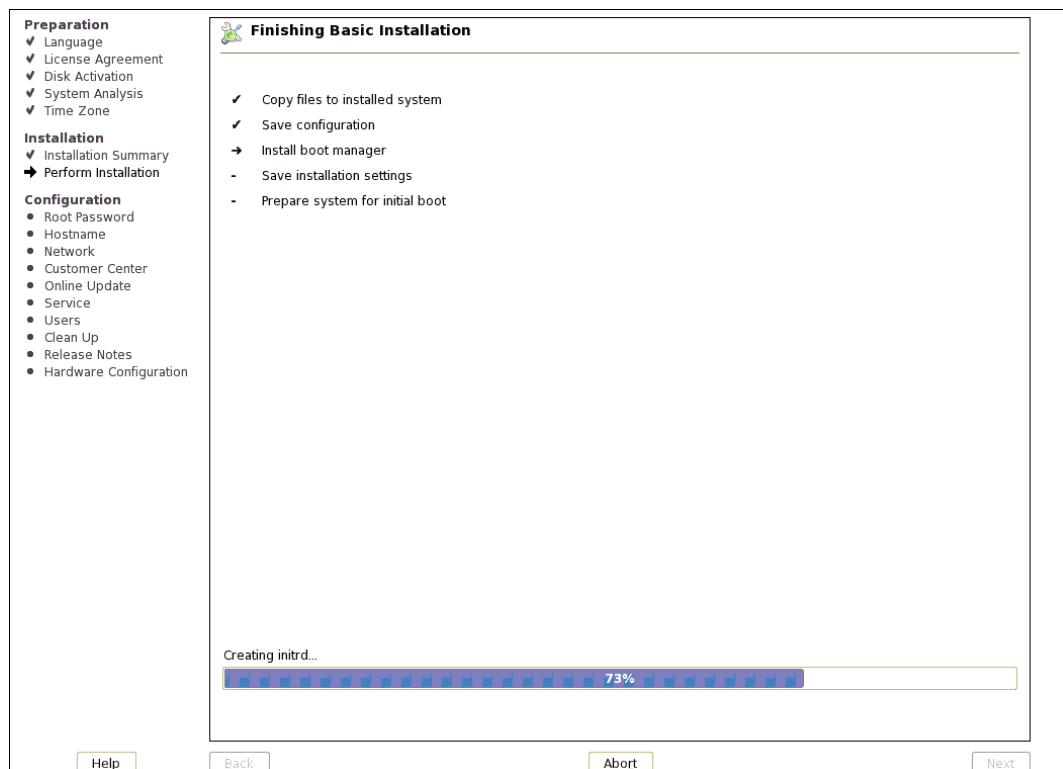

Figure 6-57 Basic Installation
8. The basic installation process will take place, as shown in Figure 6-57. On completion, system will reboot.